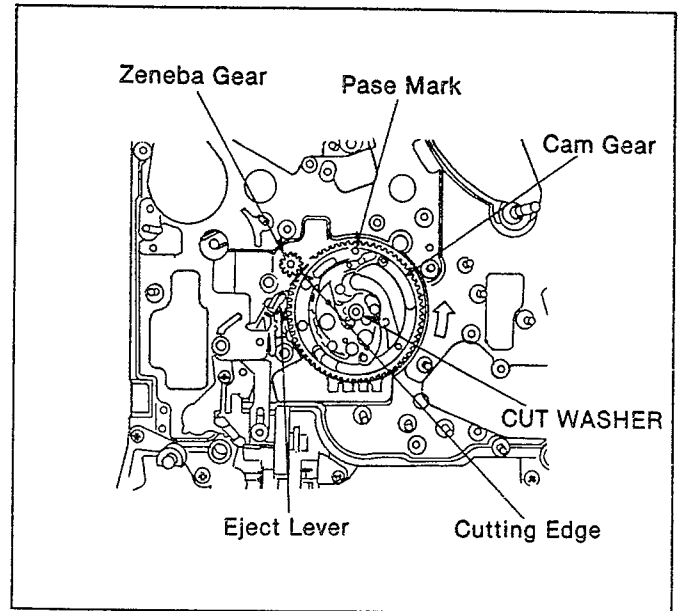

Fig. M3
- (1). Install a Cam Gear so that phase mark on the Cam Gear, with its point turned up, and then insert the Cut washer as shown in Fig. M3.